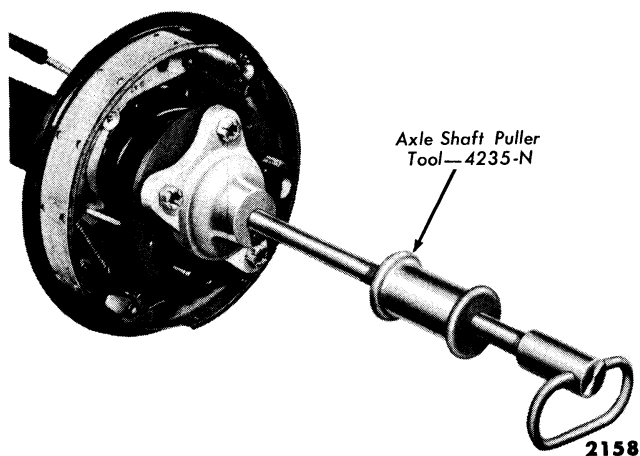

Fig. 5—Axle Shaft Removal
(1) **REMOVAL.** Remove the wheel and tire assembly, then remove the nuts that secure the brake drum to the axle flange. Remove the brake drum. Working through the hole provided in the axle shaft flange, remove the nuts that secure the brake plate to the axle housing. Pull the axle shaft assembly out of the housing as shown in fig. 5. Be careful not to dislodge the brake plate or damage the oil seal in the housing. Install one nut to hold the brake plate in place.